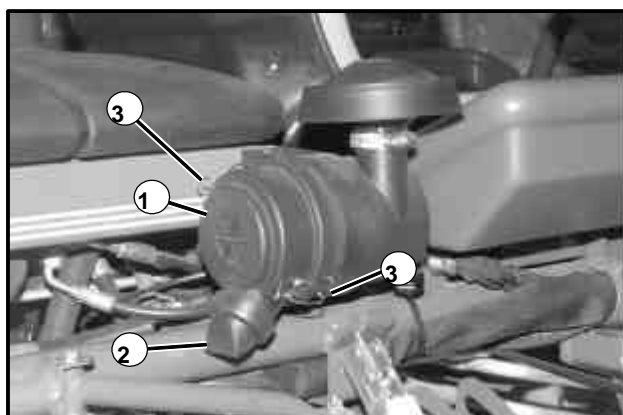

Figure 34
4. Install the air cleaner cover over the element with the dust collector pointing **DOWN** (dust collector empties automatically when properly installed). Secure the cover with the two wire bails (See Fig. 34).